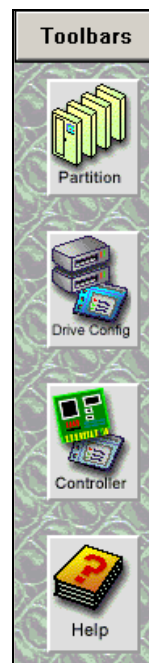

Figure 5-1
- ◆ Select the **Configuration** toolbar (Figure 5-1).